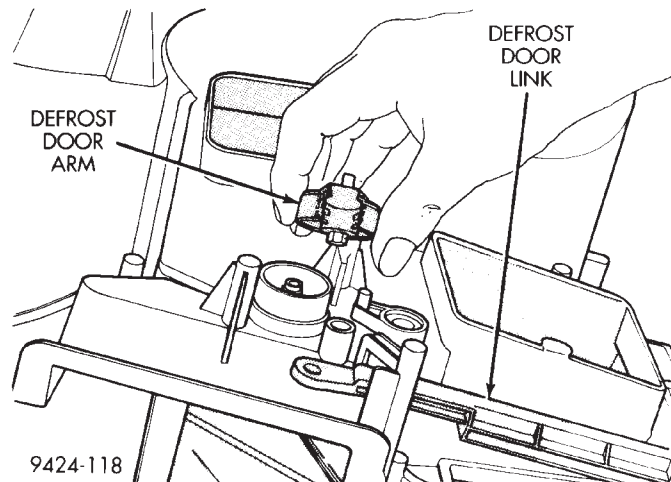

**Fig. 80 Defrost Door Arm**
(24) Remove defrost door arm from lower housing (Fig. 80).